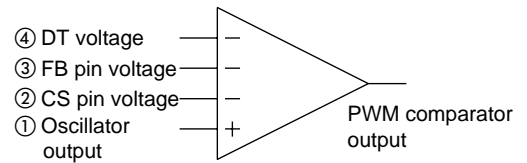
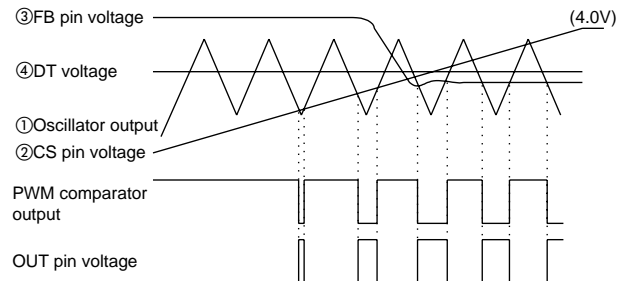

Fig. 3 PWM comparator
Fig. 4 PWM comparator timing chart
The PWM comparator has four inputs as shown in Figure 3. Oscillator output ① is compared with CS pin voltage ②, FB pin voltage ③, and DT voltage ④. The lowest of three inputs ②, ③, and ④ has priority and is compared with oscillator output ①. While the voltage is lower than the oscillator output, the comparator output is high. While the voltage is higher than the oscillator output, the PWM comparator output is low (see Figure 4). The IC OUT pin voltage is high while the PWM comparator output is low. When the IC is powered up, CS pin voltage ② controls soft start operation. The output pulse then begins to widen gradually. During normal operation, the output pulse width is determined within the maximum duty cycle (FA5510/14: 46%, FA5511/15: 70%) set by DT voltage ④ under the condition set by FB pin voltage ②, to stabilize the output pulse width.